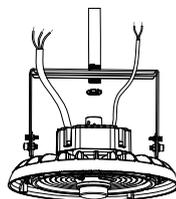

Figure 9
Step2. Insert 1/2" NPT stem into the bracket hole. (Figure 9)